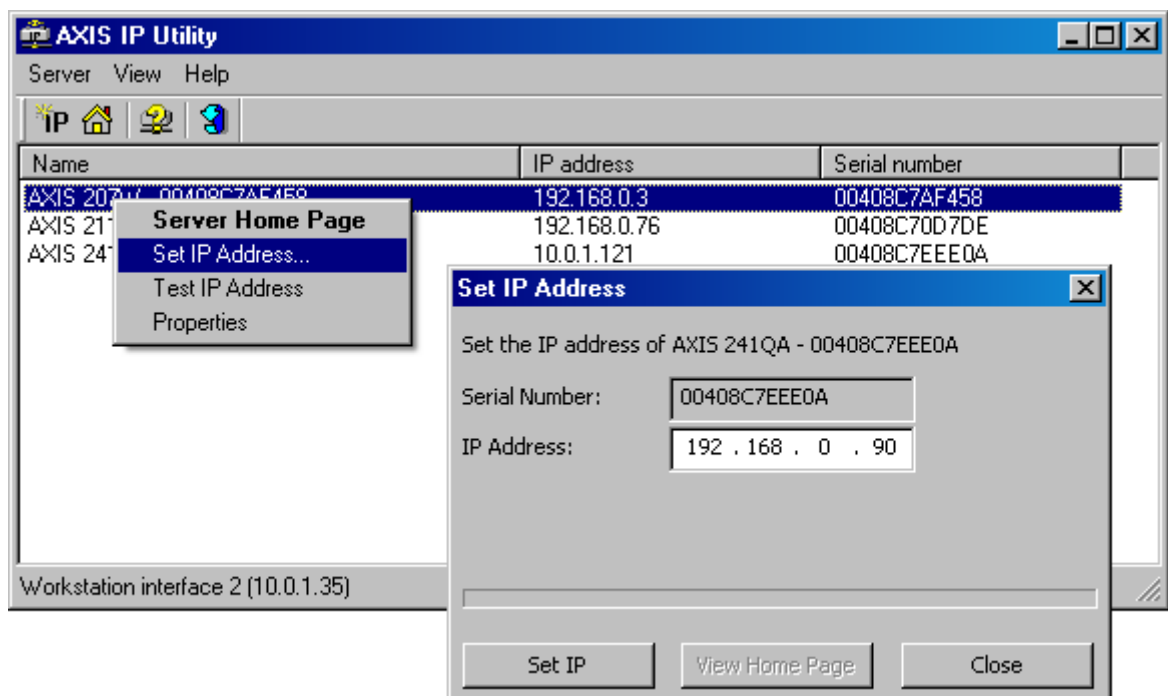

Figure 5.4.1-24
3. Check the IP-address assigned to the camera. The check-up procedure is described in step 1. If the IP-address is assigned correctly, the “ping 192.168.0.253” command will generate the response shown in (Figure 5.4.1-25).